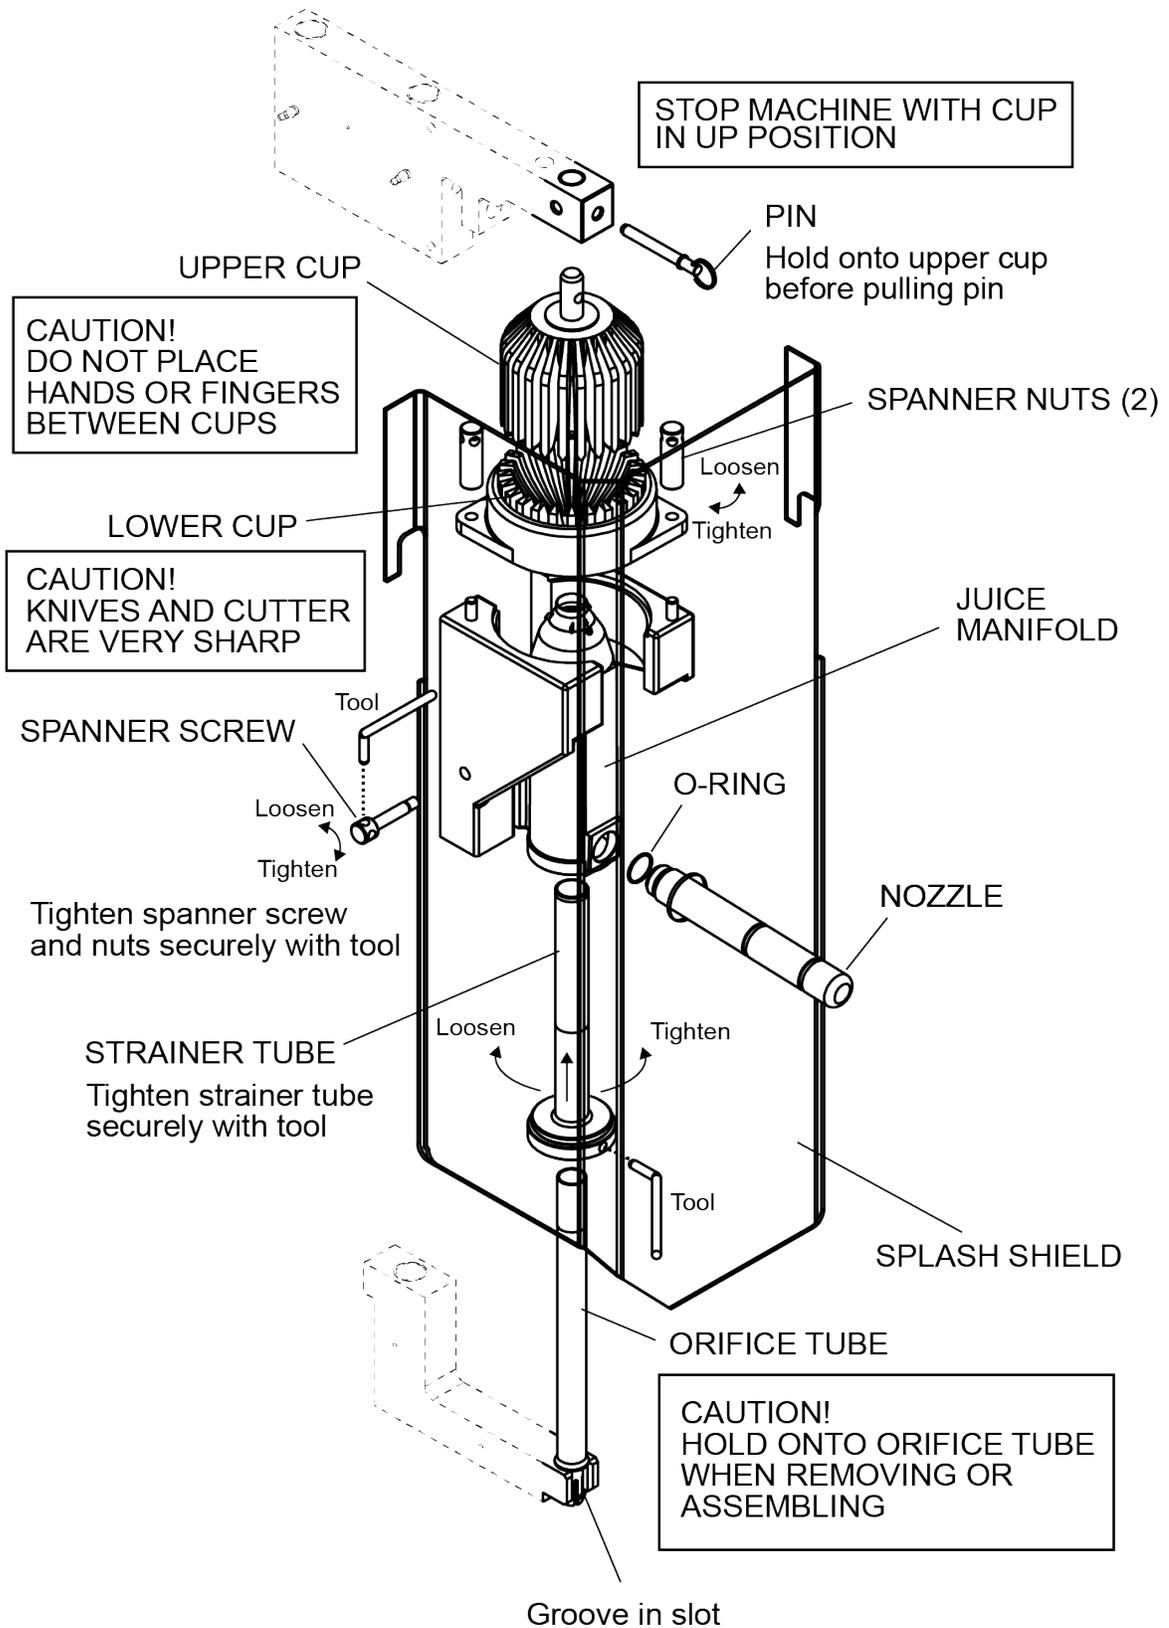

Figure 6. Removing/Replacing Juicing Components
6. Remove juicing components (see Figure 6).
Refer to Figure 6.